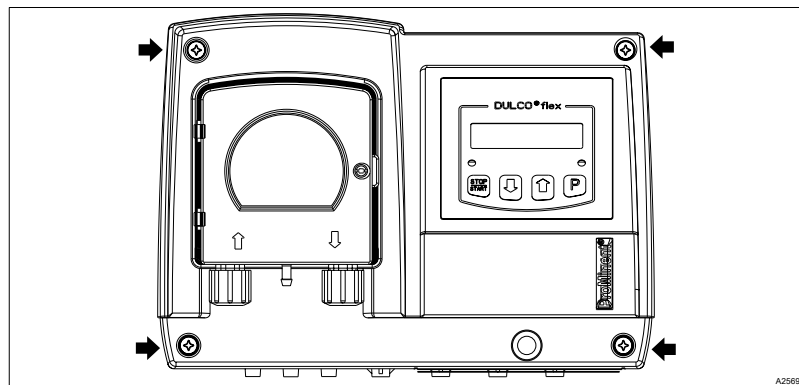

Fig. 7: 4 screws (arrows) on the upper part of the housing
2. ➤ Loosen the 4 screws on the upper part of the housing, Fig. 7.